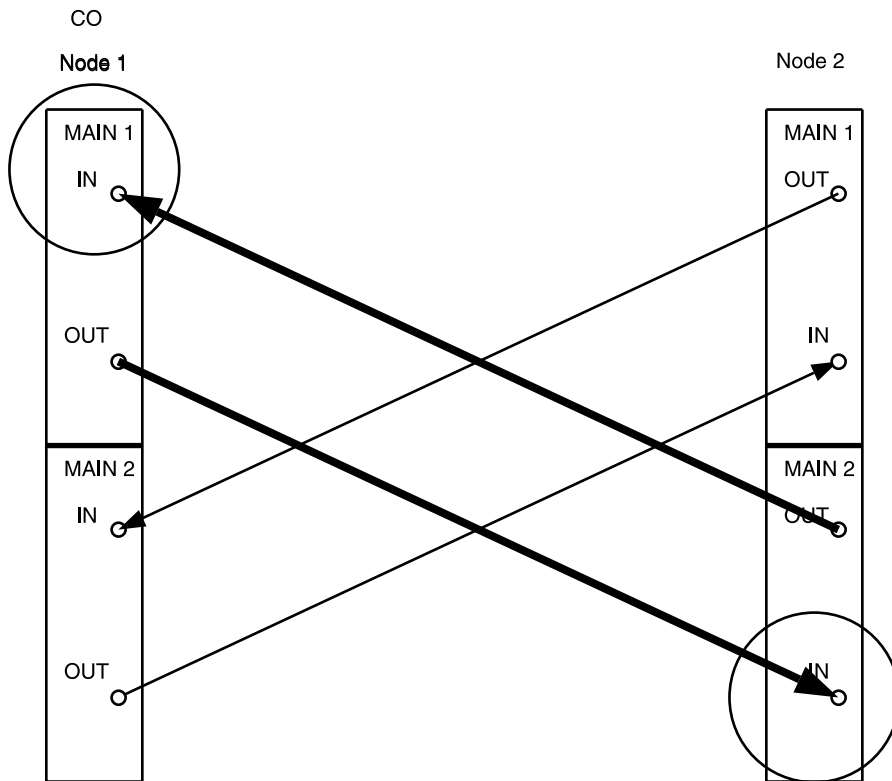

Figure 16 – DDM-2000 OC-3 Drop or Add/Drop Network to Ring Upgrade
26. At Node 1, remove optical splitter from **MAIN 2(P) IN**. Connect optical fiber from Node 2 **MAIN 1 OUT** to Node 1 **MAIN 2(P) IN**. (See Figure 16.)
At Node 2, use the `switch-line:main:pri>manual` command to switch service to the protection line (`main-2 OLIU active`) at Node 2. (See Figure 16.)